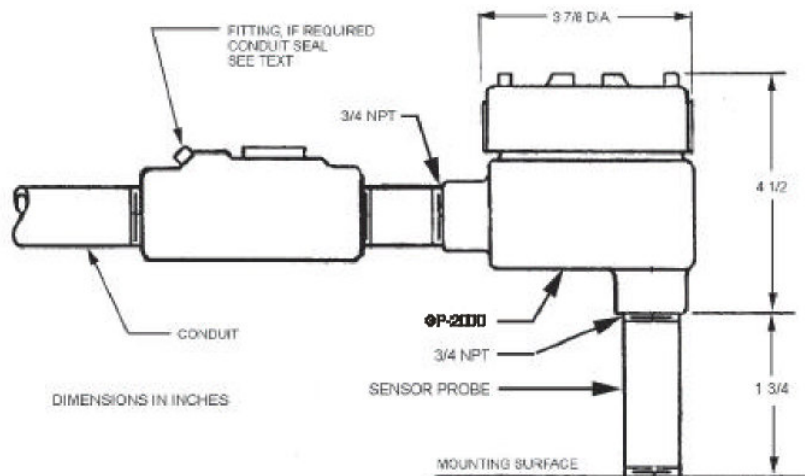

Figure 1-1
- Figure 1-1. Typical Explosion-Proof Installation
The probe is mounted by its NPT hub or flange. Refer to Figure 1-1 for dimensions.